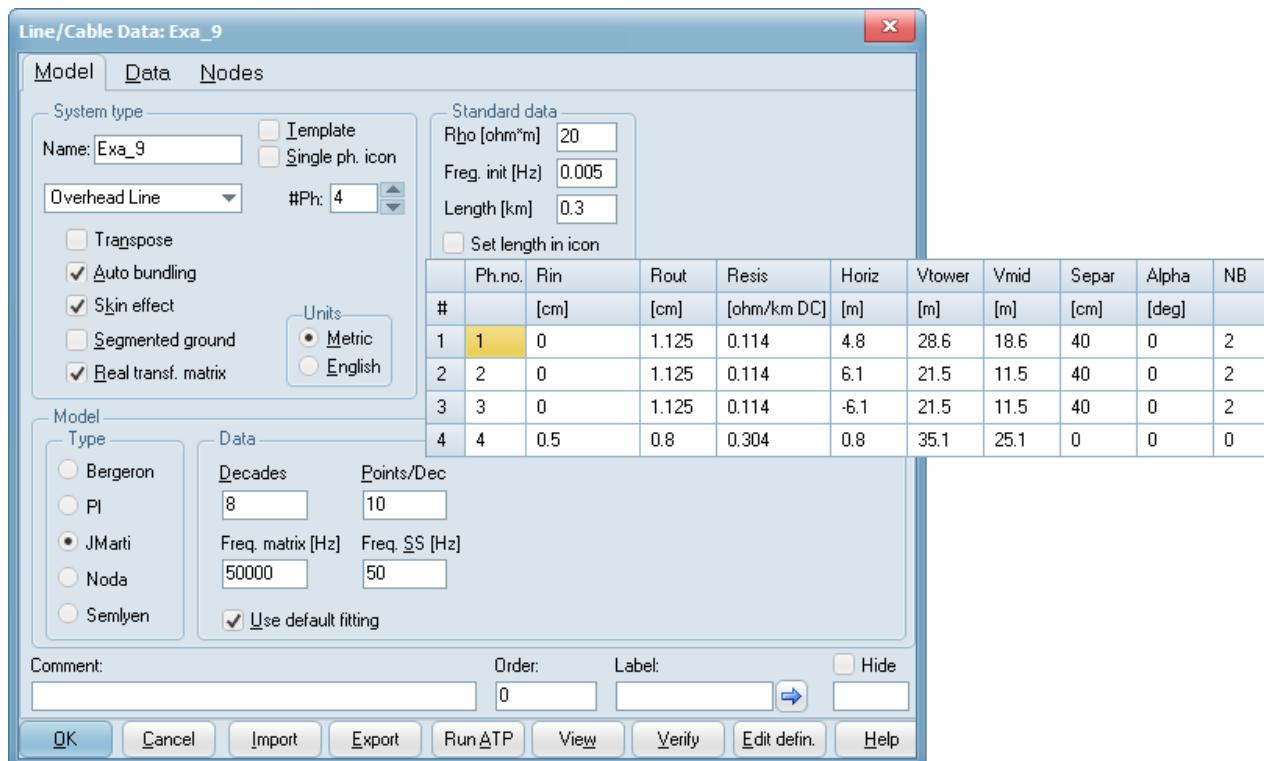
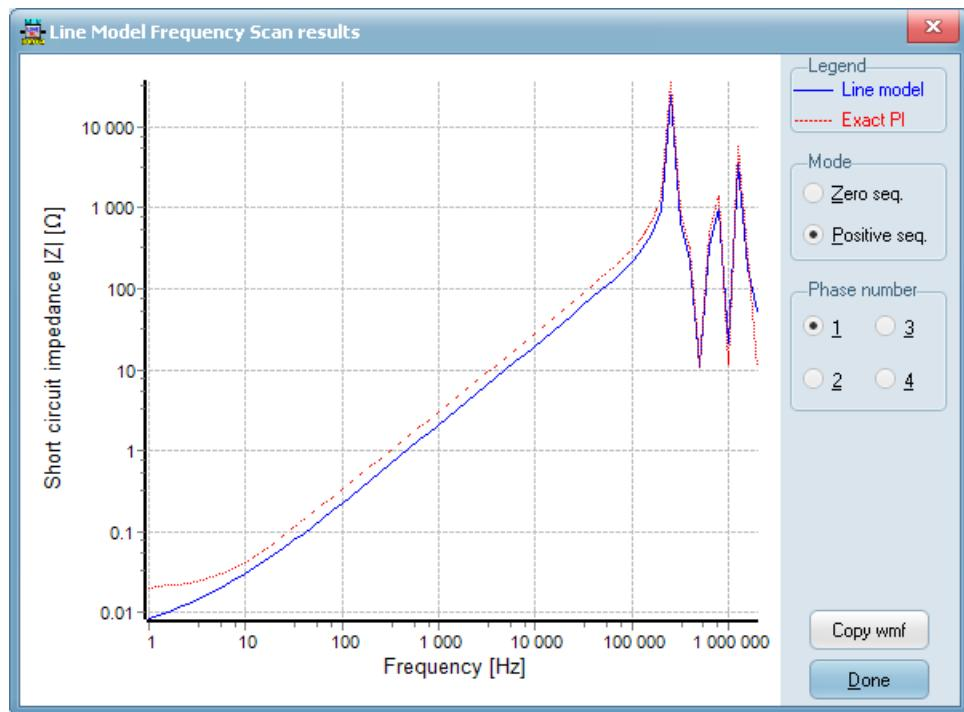

Fig. 5.40 - Specification of a 4-phase JMartí line model.
Fig. 5.41 - Verifying a JMarti line model 1 Hz to 1MHz. Model is OK for  $f > 25$  Hz.
- a) Select LMFS: Clicking on *OK* will result in the generation of a LMFS data case called `xVerify.dat` and execution of ATP based on the settings of the default ATP command (*Tools/Options/Preferences*). The sources are specified in include files called `xVerifyZ.dat`, `xVerifyP.dat`, and `xVerifyM.dat` for the zero, positive and mutual sequence respectively. The individual circuits are tested simultaneously. The receiving ends are all grounded (over 0.1 mΩ) and all sending ends (if *Circuit number > 0*) attached to AC current sources of 1 Amps. The phase angle of the applied current source for the  $i^{th}$  conductor is  $-360 \cdot (i-1)/n$  where  $n$  is the total number of conductors belonging to that circuit. Phase angle for the zero sequence tests are zero. The mutual coupling works only for 6-phase lines. For circuit one all phases are supplied with zero phase angle sources, while the phase conductors of the other circuit at the sending end are open. The *View old case* button will skip creation of the LMFS data case and trace the program directly to the procedure that reads the `xVerify.lis` file, which contains the input impedances of the electrical model compared to the exact PI-equivalent as function of frequency under various conditions. ATPDraw can read this file and interpretation of the results is displayed in the *LMFS results* window as shown in Fig. 5.41 for the 4-phase JMarti line-model specified in Fig. 5.40. LMFS relies on simulations in ATP and there are restrictions on how many phases (six?) can be managed. If the ATP simulation hangs for some reason, ATPDraw will wait in an eternal loop for it to finish. Break this loop by pressing ESC.
In Fig. 5.41, the user can select the *Mode* and the *Phase number* of which the absolute value of the input impedance is displayed to the left in a log-log plot. It is also possible to copy the curves to the windows clipboard in metafile format (*Copy wmf*). The absolute value of the input impedance of the model and the exact pi-equivalent can be compared for the following cases: